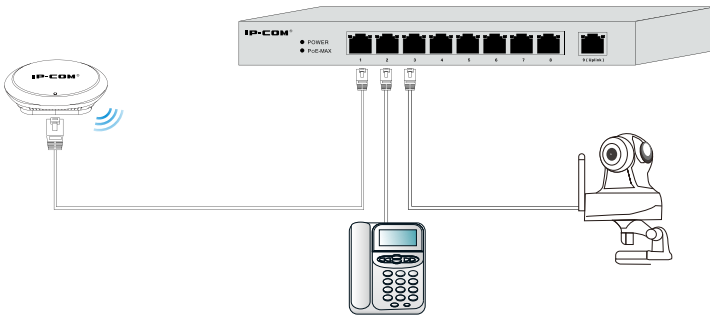

Figure 3-2 Connect standard PD devices
Step 2: Use other Ethernet cables to connect downstream network devices to the Downlink ports. PoE-capable ports can access PDs such as an AP, an IP phone, an IP camera, shown as Figure 3-2.